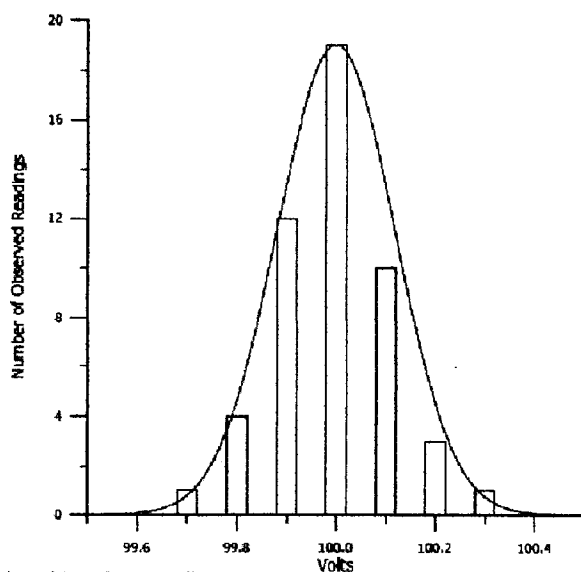

Figure 3.7 Distribution of 50 voltage readings
For example, 50 readings of voltage were taken at small time intervals and recorded to the nearest 0.1 V. The nominal value of the measured graphically in the form of a block diagram or histogram in which the number of observations is plotted against each observed voltage reading. The histogram and the table data are given in Figure 3.7. The figure shows that the largest number of readings (19) occurs at the central value of 100.0 V while the other readings are placed more or less symmetrically on either side of the central value. If more readings were taken at smaller increments, say 200 readings at 0.05-V intervals, the distribution of observations would remain approximately symmetrical about the central value and the shape of the histogram would be about the same as before. With more and more data taken at smaller and smaller increments, the contour of the histogram would finally become a smooth curve as indicated by the dashed line in the figure. This bell shaped curve is known as a Gaussian curve. The sharper and narrower the curve, the more definitely an observer may state that the most probable value of the true reading is the central value